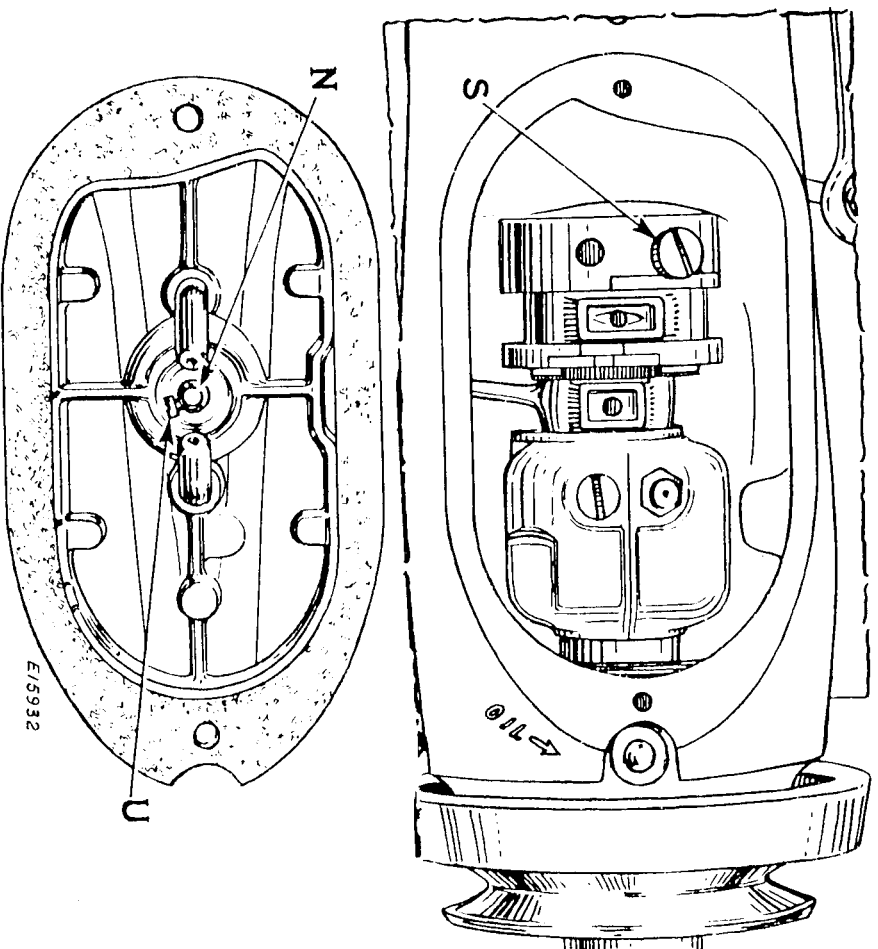

FIG. 23. Feed Eccentric
The machine is prevented from making longer stitches than a predetermined maximum by the stop screw (S, Fig. 23) in the feed eccentric.
The stitch regulator plunger (N, Fig. 23) can be removed to prevent unauthorized or accidental changing of the stitch length. Take out screw (U) which will allow the plunger to be withdrawn when the stitch length has been adjusted. The hole in the arm should then be filled by inserting a screw 140317X (not regular equipment).